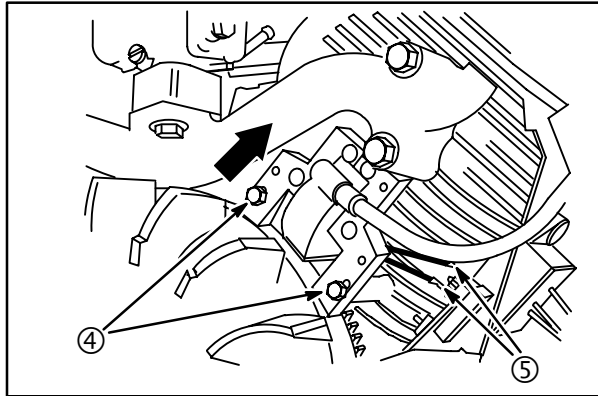

Fig. 20
1. Assemble armature to engine, **Fig. 20**.